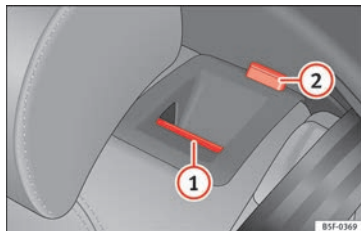

Fig. 155 On the rear seat backrest: release catch **①**; red mark **②**.
- Push the unlock button » **Fig. 155 ①** forwards and at the same time lift the backrest.
- The rear seat backrest is not engaged when the red marking of the button **②** is visible.
The rear seat backrest is not engaged when the red marking of the button » Fig. 155 ② is visible.